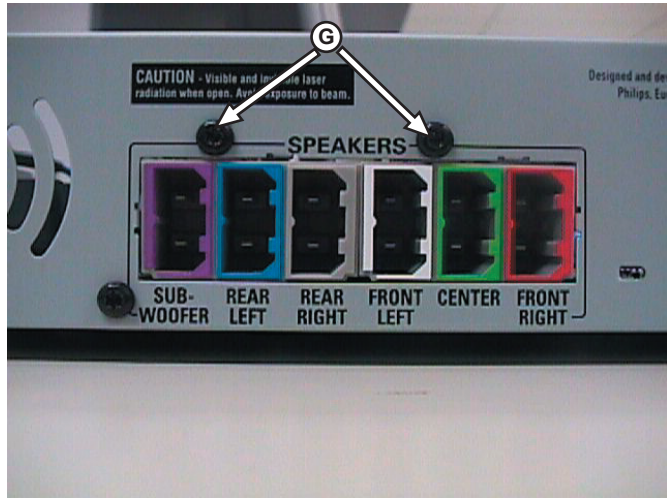

Figure 4-8
- 1) Loosen 4 screws F and 2 screws G (See Figure 4-8 & Figure 4-9) to remove Amp-Module Board.